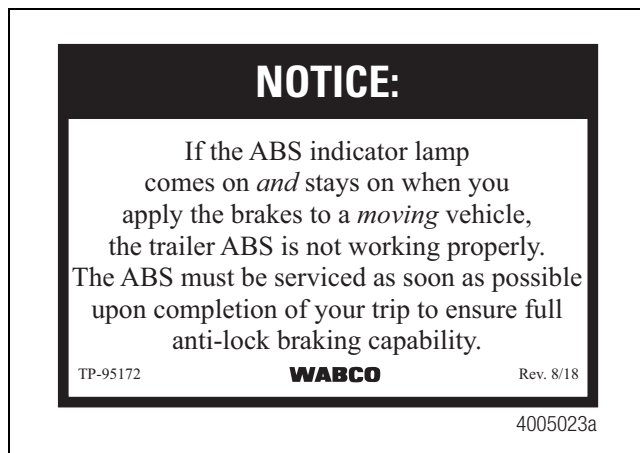

Figure 41
1. Affix the ABS indicator label to the trailer. The label should be on the side of the trailer near the ABS indicator lamp. Figure 41.